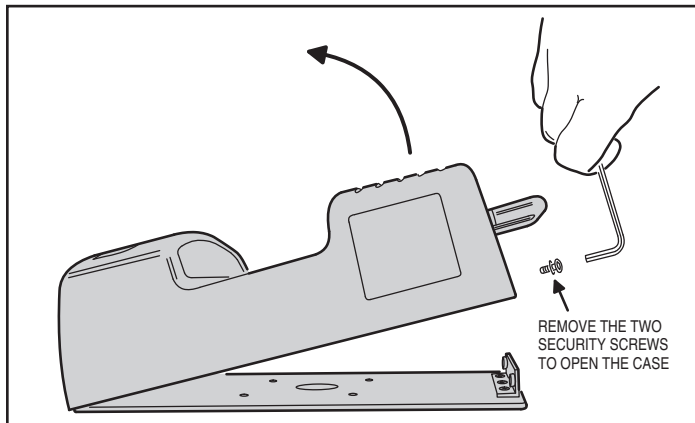

Figure 2. Opening the RE-1 Case
1. Open the RE-1 case by removing the two security screws with the wrench provided (see Figure 2).